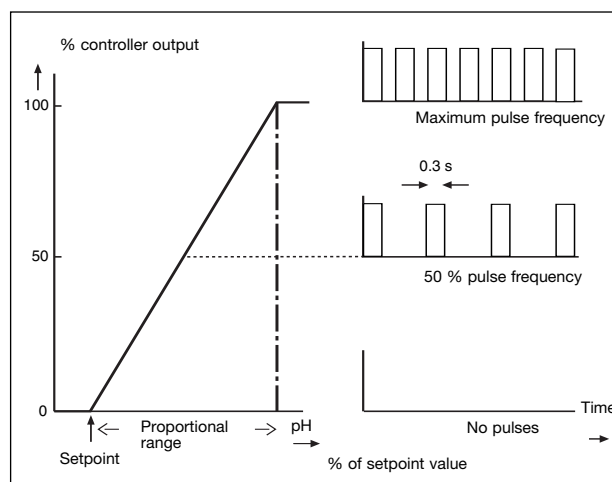

Fig. 5-4.
*FREQ.	The maximum frequency for the pulse frequency control. See fig 5-4.